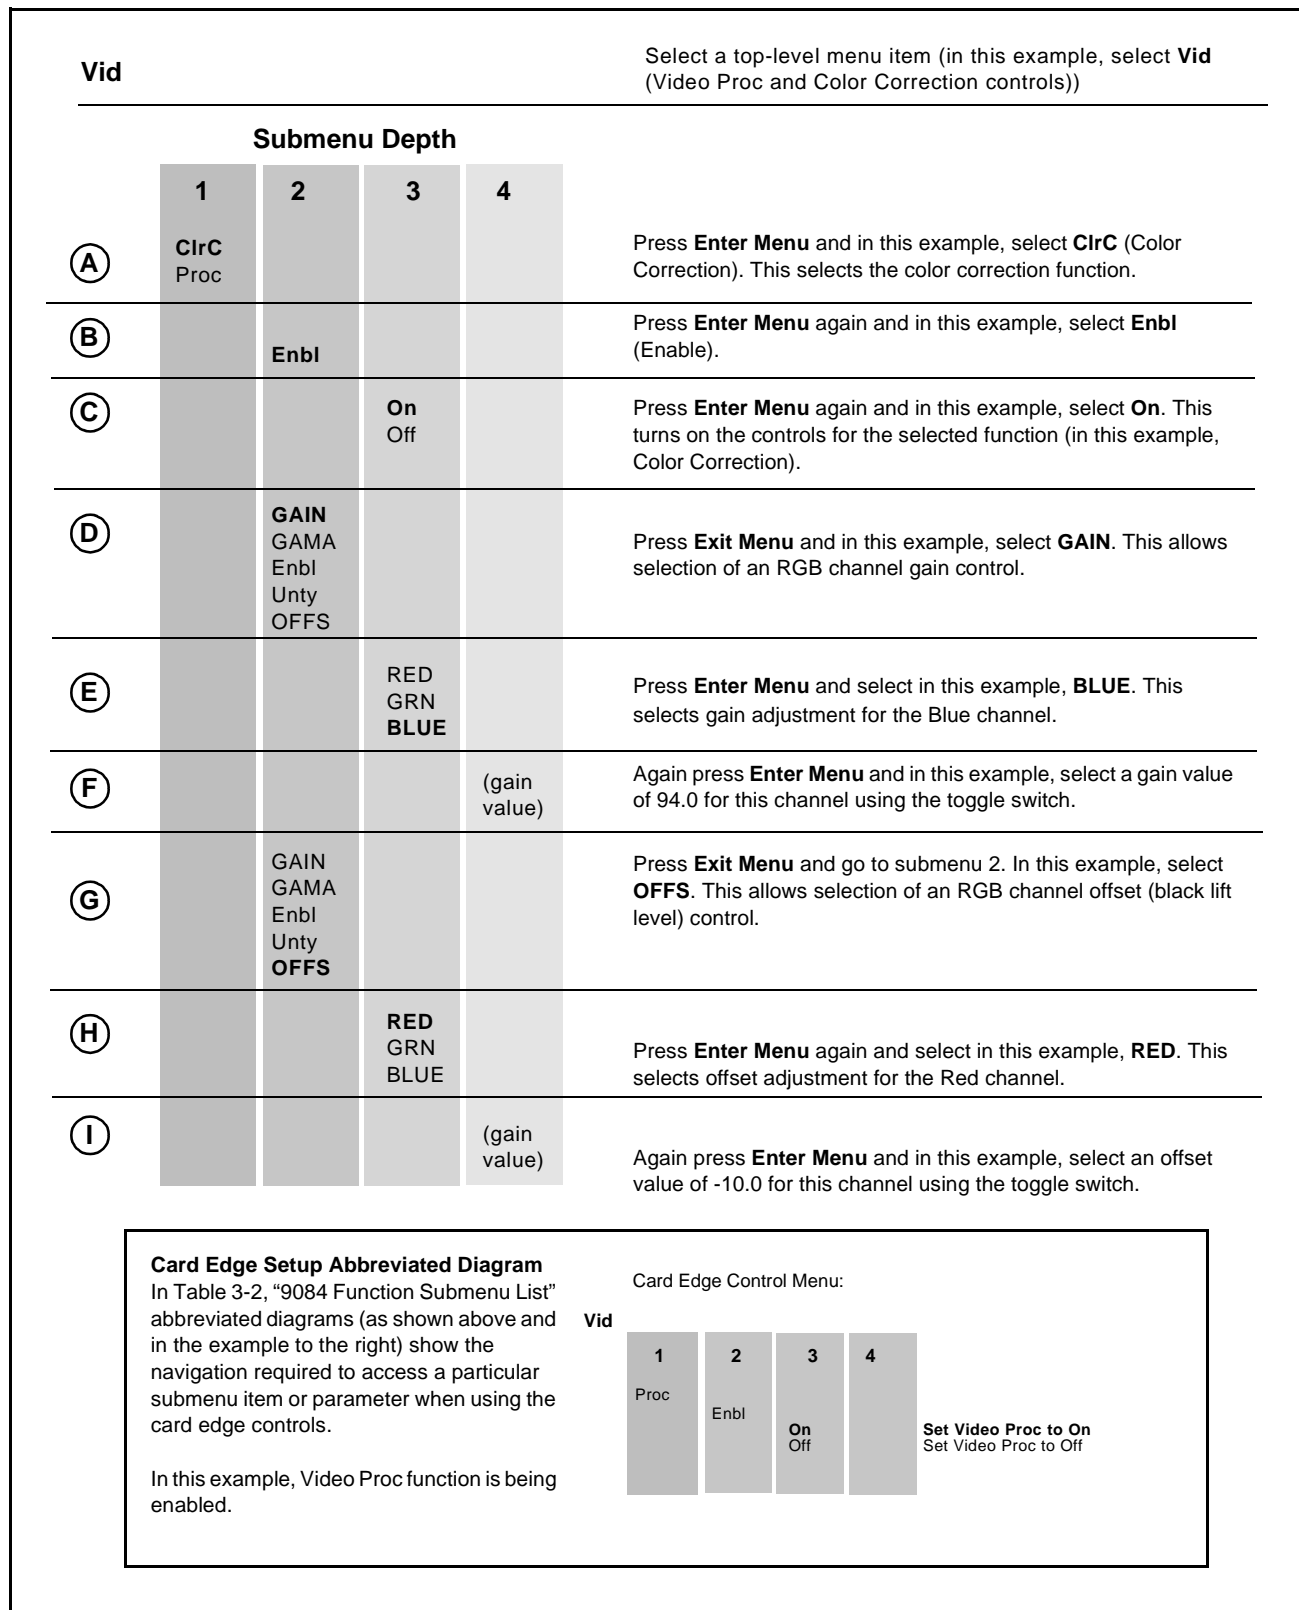
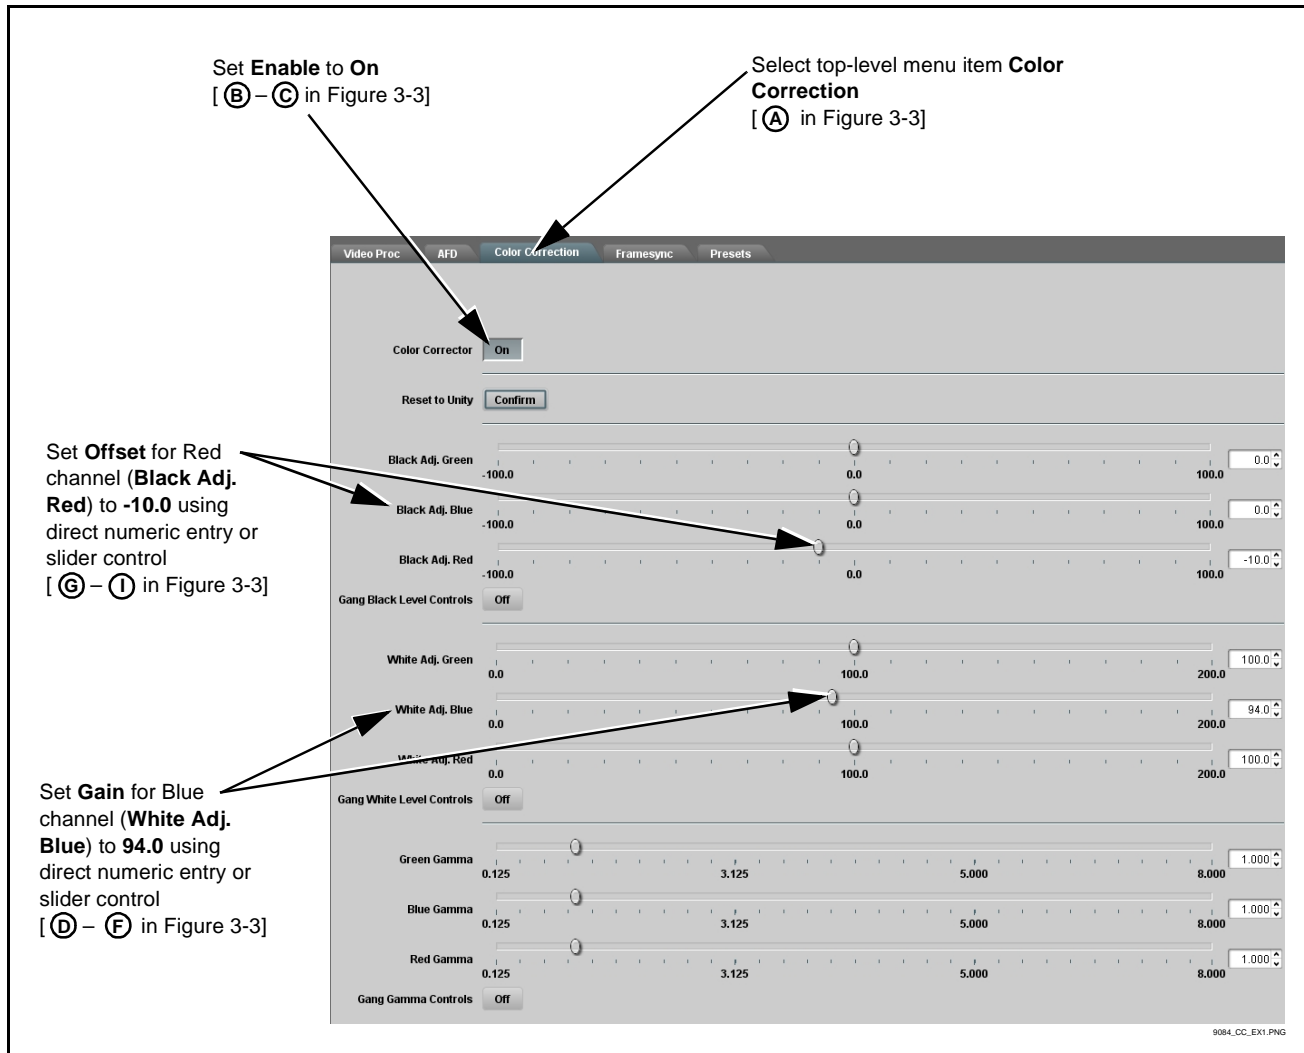

Figure 3-3 Card Edge Controls Setup of Example Color Correction Function
Figure 3-5 DashBoard™ Setup of Example Color Correction Function
Figure 3-3 shows an example of using the card edge controls to access the Color Correction menu (along with some of its submenus) to adjust color channel gain and 0-levels. (A) through (I) in Figure 3-3 denote the discrete tasks required in performing the example setup using the 9084 card edge controls.
Due to the limited control available when using the card edge control user interface, the navigation into and out of submenus shown in Figure 3-3 is required to perform the adjustments described above.
(See Figure 3-5.) The 9084 function submenus are organized in DashBoard™ using tabs (for example, “Color Correction” in Figure 3-5). When a tab is selected, each parametric control or selection list item associated with the function is displayed. Scalar (numeric) parametric values can then be adjusted as desired using the GUI slider controls. Items in a list can then be selected using GUI drop-down lists. (In this manner, the setting effected using controls and selection lists displayed in DashBoard™ are comparable to the submenu items accessed and committed using the 9084 card edge controls.)
Figure 3-5 shows the same setup described in Figure 3-3 as performed using DashBoard™. Note how this setup is greatly simplified using DashBoard™ with most of the discrete tasks ((A) through (I) in Figure 3-3) performed with the card edge controls now rolled into simple actions using DashBoard™.